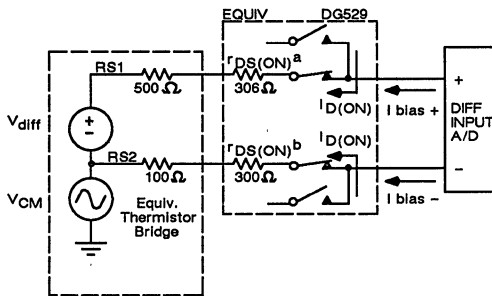

Figure 11. Steady State Errors
- (a) DC errors contributed by the multiplexer. Figure 11 shows the steady-state differential voltage input path for one switch closed. As can be seen, the primary error source is the product of leakage currents in the signal path resistances. These leakage currents generate additional system offset voltages which, even though the bridge presents an unbalanced resistance, are acceptable.